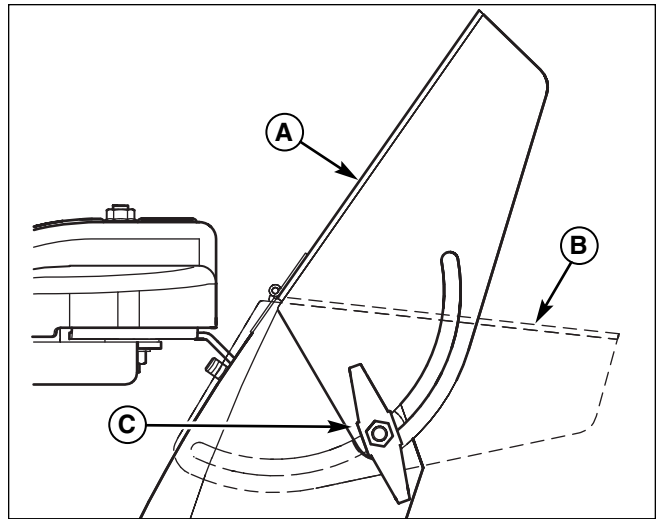

Figure 9. Deflector Control
1. Rotate the adjustment knob (C, Figure 9) counterclockwise to loosen then adjust the deflector to the desired position and tighten the deflector adjustment knob by turning it clockwise to secure the deflector in position.